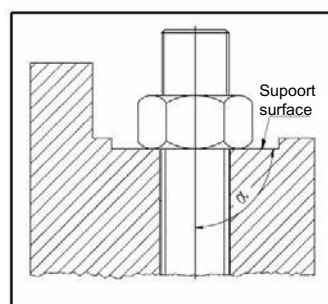

Figure 4: Angle accuracy
- 4.1.6. Check the angle α of the bolt on the support surface and correct if necessary. (Figure 4)